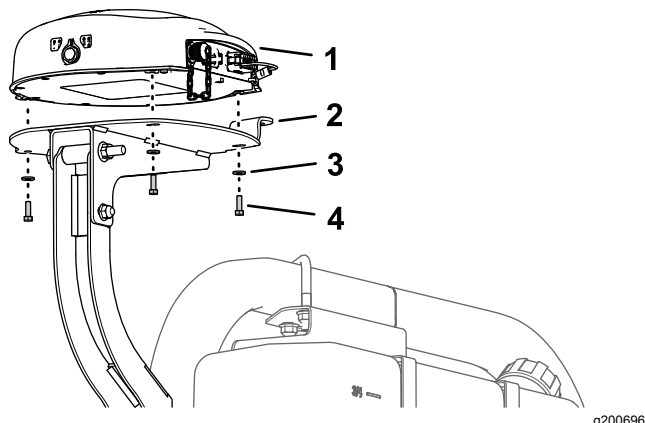

Figure 155
- Align the 3 threaded in the base of the navigation receiver to the 3 holes in the receiver mount (Figure 155).
- Assemble the receiver to the mount (Figure 155) with the 3 hex-head bolt (5 x 16 mm) and 3 washers (5 mm).